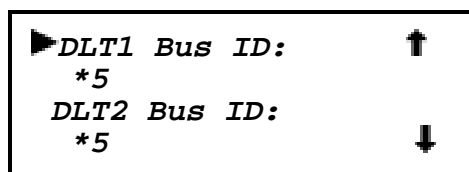

Figure 2-27 Set SCSI Submenu Scrolled
5. Note that the Library SCSI ID is set to 6. Suppose you want to set the DLT1 bus ID to 4. With the ► next to line 1, press the ▼ button repeatedly until the display scrolls as shown in Figure 2-27.